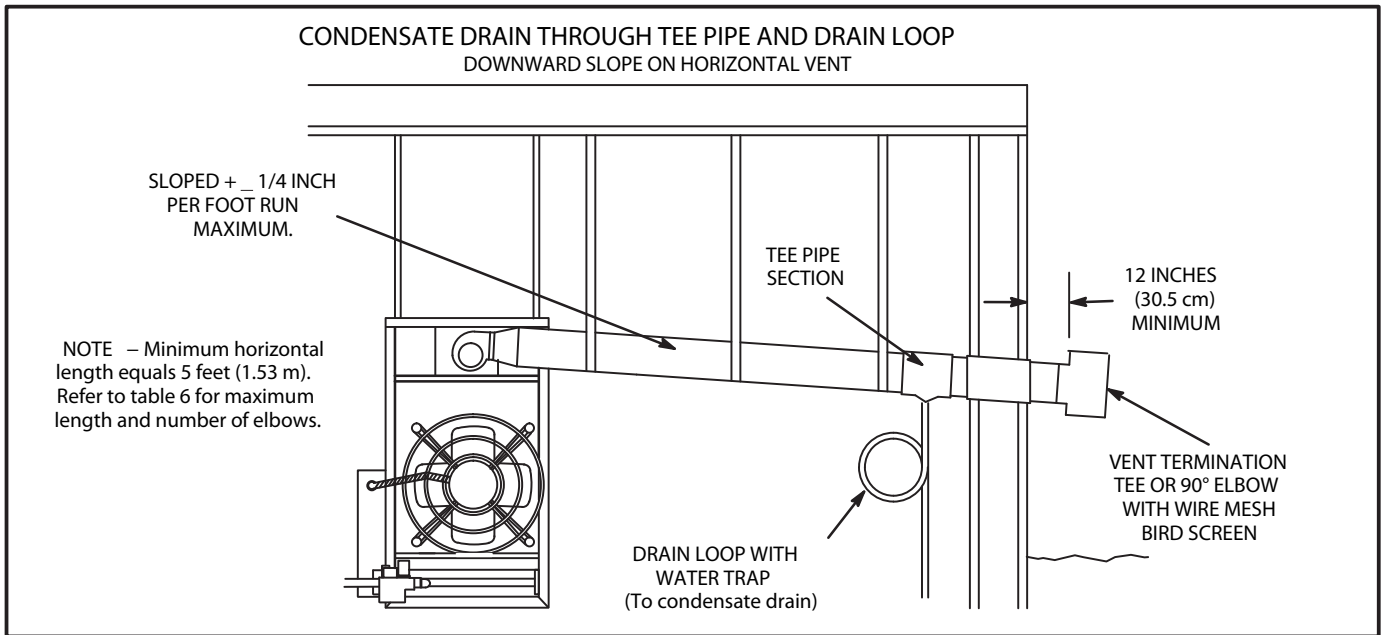
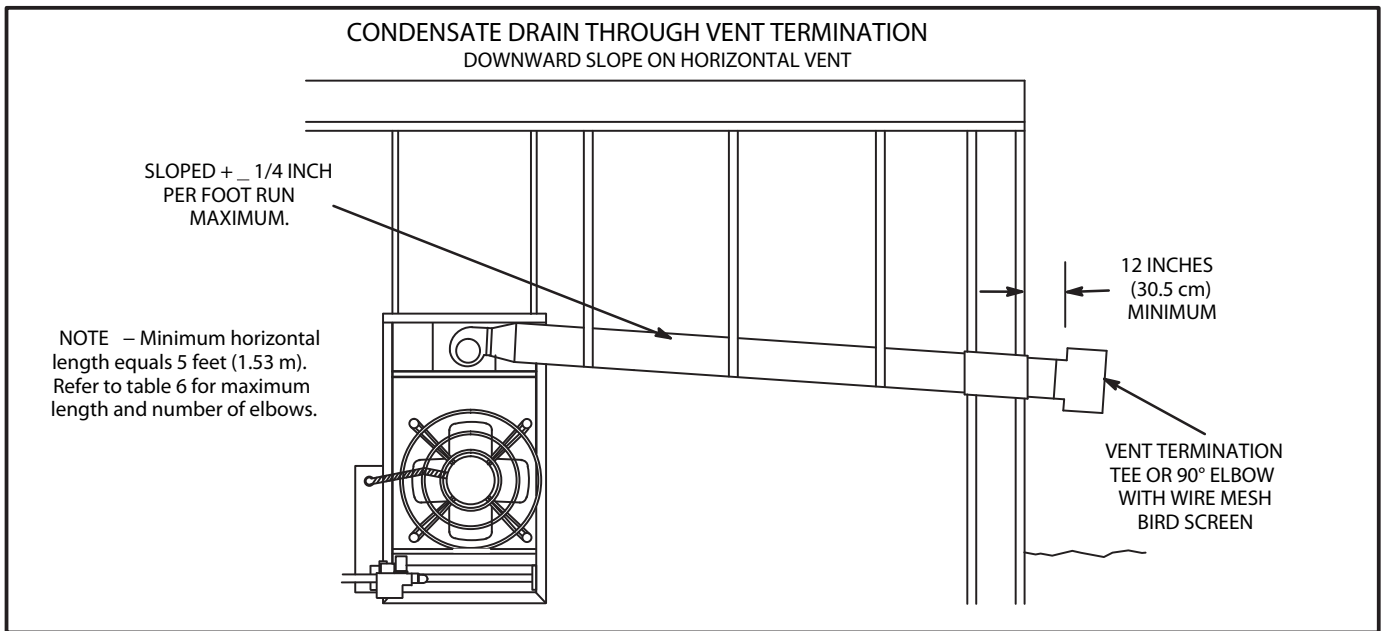

FIGURE 4
FIGURE 5
- 1 – Select a wall termination point that will maintain 1/4" rise per foot slope of horizontal run of vent pipe. In areas where authorities having jurisdiction permit, a downward slope of maximum 1/4" per foot is also acceptable. In such cases, a single-wall vent pipe must be constructed of no. 24 GSG galvanized steel. Condensate drainage can be collected in a tee pipe section (figure 4) with drain loop similar to one used for upward slope vent, or allowed to drip through the vent termination, if permitted by authorities (figure 5).